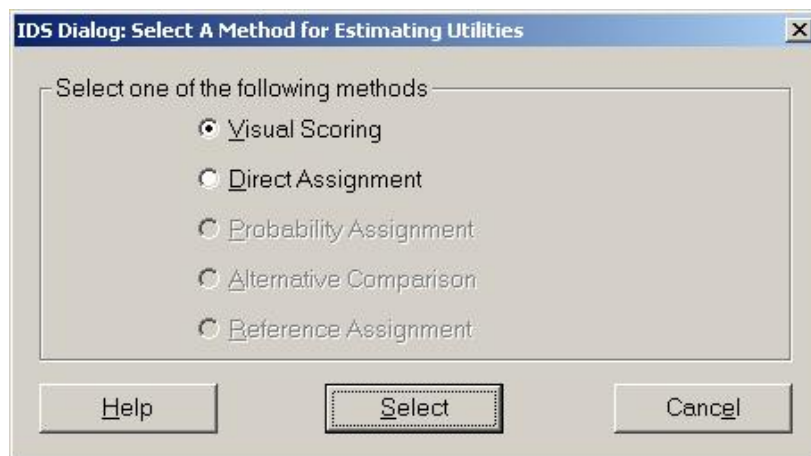

Figure 2.18 Covert Child Grade to Father Grade by Rules
- At this point, a dialog window shown in **Figure 2.18** will pop up for you to select a method to assign utility to each grade. You may select *Direct Assignment* or *Visual Scoring*, which will activate a window similar to **Figure 2.19** if *Direct Assignment* or **Figure 2.14** if *Visual Scoring* is selected. It basically gives you another chance to edit the utilities you have assigned to each assessment grade of *Engine*. You will not see the grade by grade conversion process as shown in the rule based approach. It is because by using the utility based approach, the father’s grades and child’s grades are all represented by utilities, which is in a common space of [0, 1]. It implies that the conversion is already implemented through the utility assignment and an conversion matrix is generated internally by IDS.